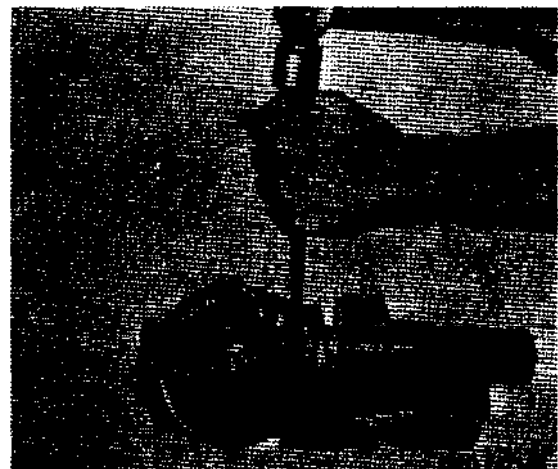

Figure 350. Removing groove pin
- (4) Remove groove pin (fig. 350). Position drive shaft and universal joint assembly in a vise equipped with copper jaws. Using a suitable punch, drive out groove pin.